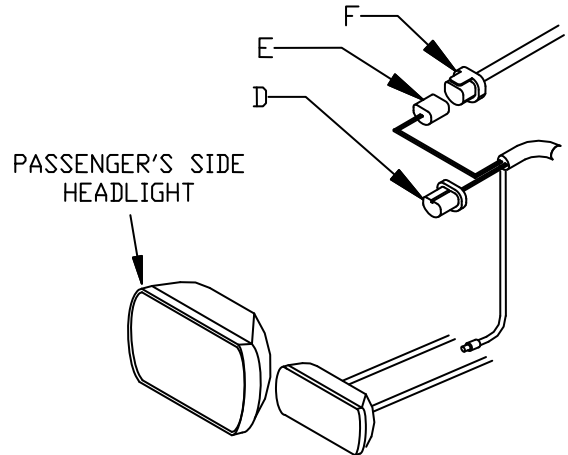

Figure 14. Passenger Side Headlight G10141
17. Check that End Cap (79) is properly inserted into Light Bar (13).
18. Place Driver Side Headlight Bracket (82) below Light Bar (13) and secure with one 3/8"-16 X 1" Hex Head Shoulder Bolt (76A), one 3/8" Flat Washer (76B), and one 3/8" Nylon Lock Nut (76C).
19. Fasten Driver Side Headlight (84) to Driver Side Headlight Bracket (82) using four 1/4"-20 X 3/4" Hex Head Bolts (76D), four 1/4" Split Lock Washers (76E), and four 1/4" Flat Washers (76F). Leave fasteners finger tight until Headlight orientation has been completed. See Figure 14 for proper fastener placement.
20. Repeat Steps 17 through 19 for Passenger Side Headlight Bracket (83) and Passenger Side Headlight (85).